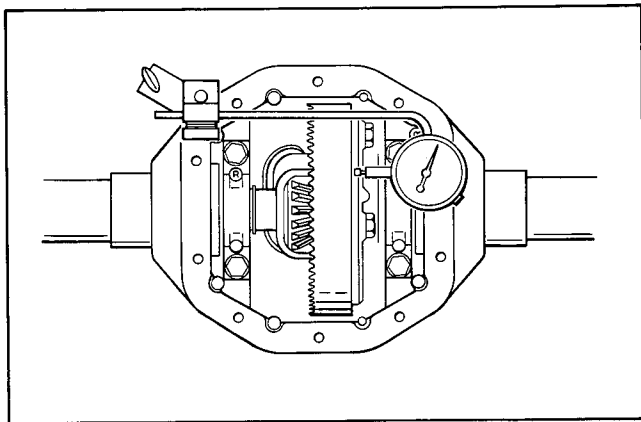

Figure 4-4 – Ring Gear Runout Check
- e. Check "ring gear runout" with dial indicator, Figure 4-4. Place contact point of dial indicator on back face of ring gear. Rotate ring gear one complete revolution. Maximum runout is .006 in. (.15 mm). Reading in excess of specification indicates loose or warped ring gear, dirt or burr on ring gear mounting surface, or sprung differential case.